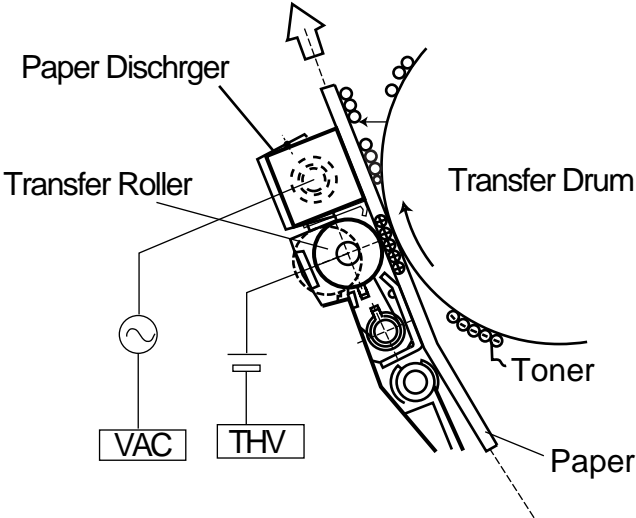

Fig.4-21
(1). Structure of Paper Discharge (Fig.4-21)
- ②. AC charger unit consists of the case and charger wire.
- ③. High alternate voltage (VAC) is injected to AC charger unit.
(2). Process of Paper Discharge (Fig.4-21)
- ①. Paper has been adhered to the transfer drum in the transfer process.
- ②. Paper is neutralized (discharged) in terms of the electrical charge by injecting to the paper the alternate voltage generated by the discharger.
- ③. Paper is separated from the transfer drum and subsequently transported to the fusing (fixing) process.